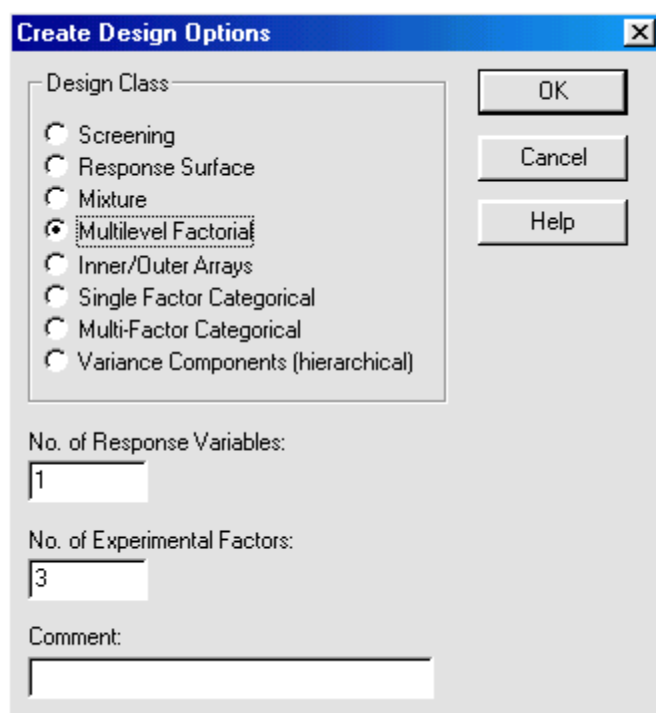

Figure 6-1. Create Design Options Dialog Box (Multilevel Factorial Designs)
1. Choose **SPECIAL... EXPERIMENTAL DESIGN... CREATE DESIGN...** from the Menu bar to display the Create Design Options dialog box shown in Figure 6-1.